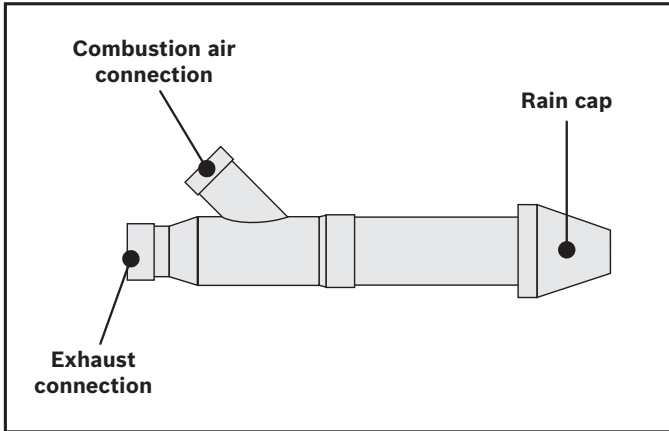

Fig. 5 Concentric vent kit connections
6. With rain cap (Fig. 5) removed, slide assembly through the roof or wall penetration. (Install flashing if needed or required by code)
9. Connect combustion air piping to the combustion air connection on the kit. Connect exhaust vent piping to the exhaust connection on the kit (Fig. 5).